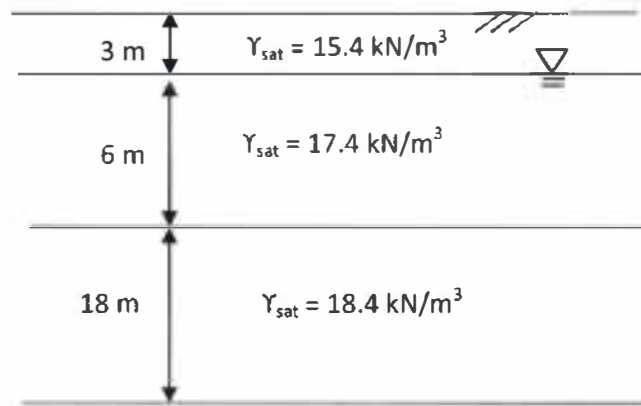

Figure 1
1. During standard penetration tests (Figure 1), N_{60} was obtained 15 at both the depths of 5 m and 18 m.